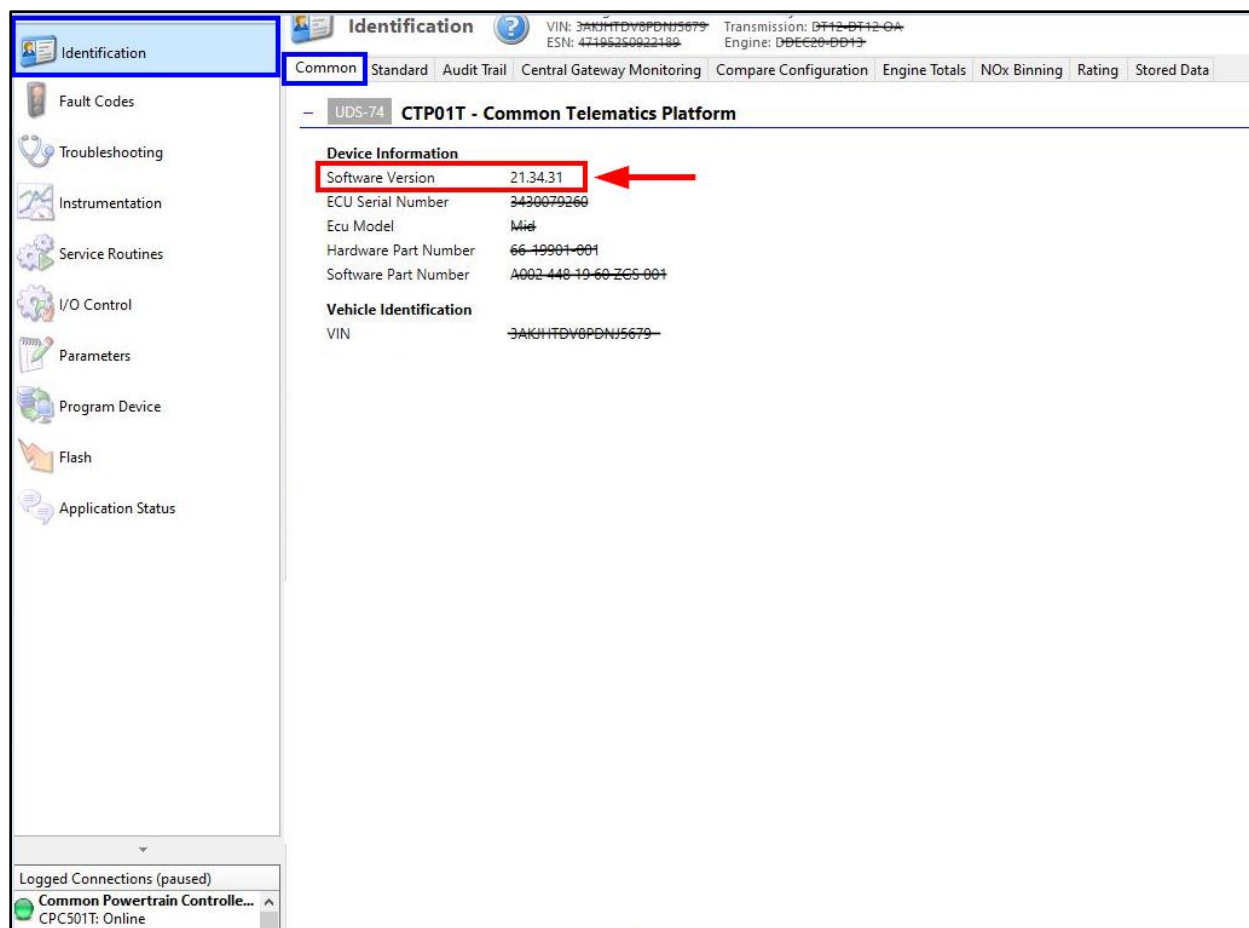

Fig. 7, CTP Software Level in Red Box
13. Navigate to the 'Identification' icon under the 'Common' tab and locate 'CTP01T Device Information;' review the software version. See **Fig. 7**.